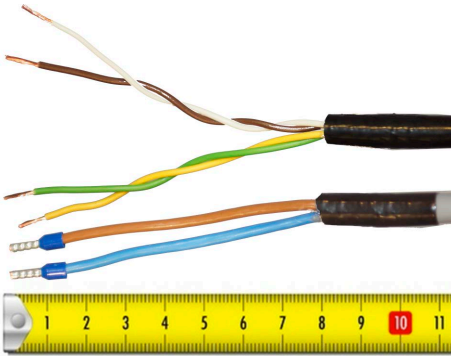

Figure 5: Cable Preparation Receiving Cable Sides
3. Attach the isolated cable end to the metal saddle on the rear of the instrument. See *Figure 5: Cable Preparation Receiving Cable Sides* on page 14.